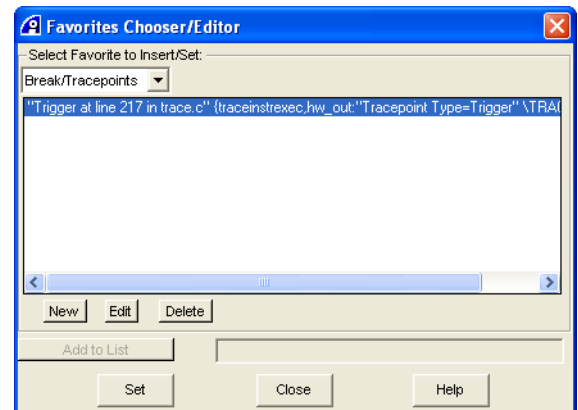

Figure 6-7 Favorites/Chooser Editor dialog box
1. Select **Debug** → **Breakpoints** → **Set Break/Tracepoint from List** → **Break/Tracepoint Favorites...** from the Code window main menu to display the Favorites Chooser/Editor dialog box. Figure 6-7 shows an example. Any previous tracepoints that have been added to the list are shown.